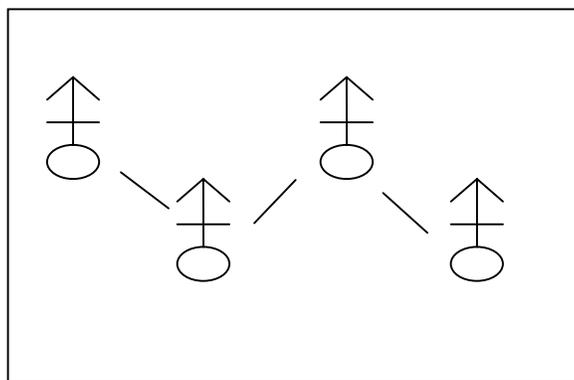

Figure 1
- Once the DOF to the priority target is determined, the number 2 gun is placed as the anchor (Figure 1). Number 1 gun is placed at a general direction of four o'clock and 70 meters behind number 2 gun. Number 3 gun is placed at a general direction of seven o'clock and 70 meters to the left and